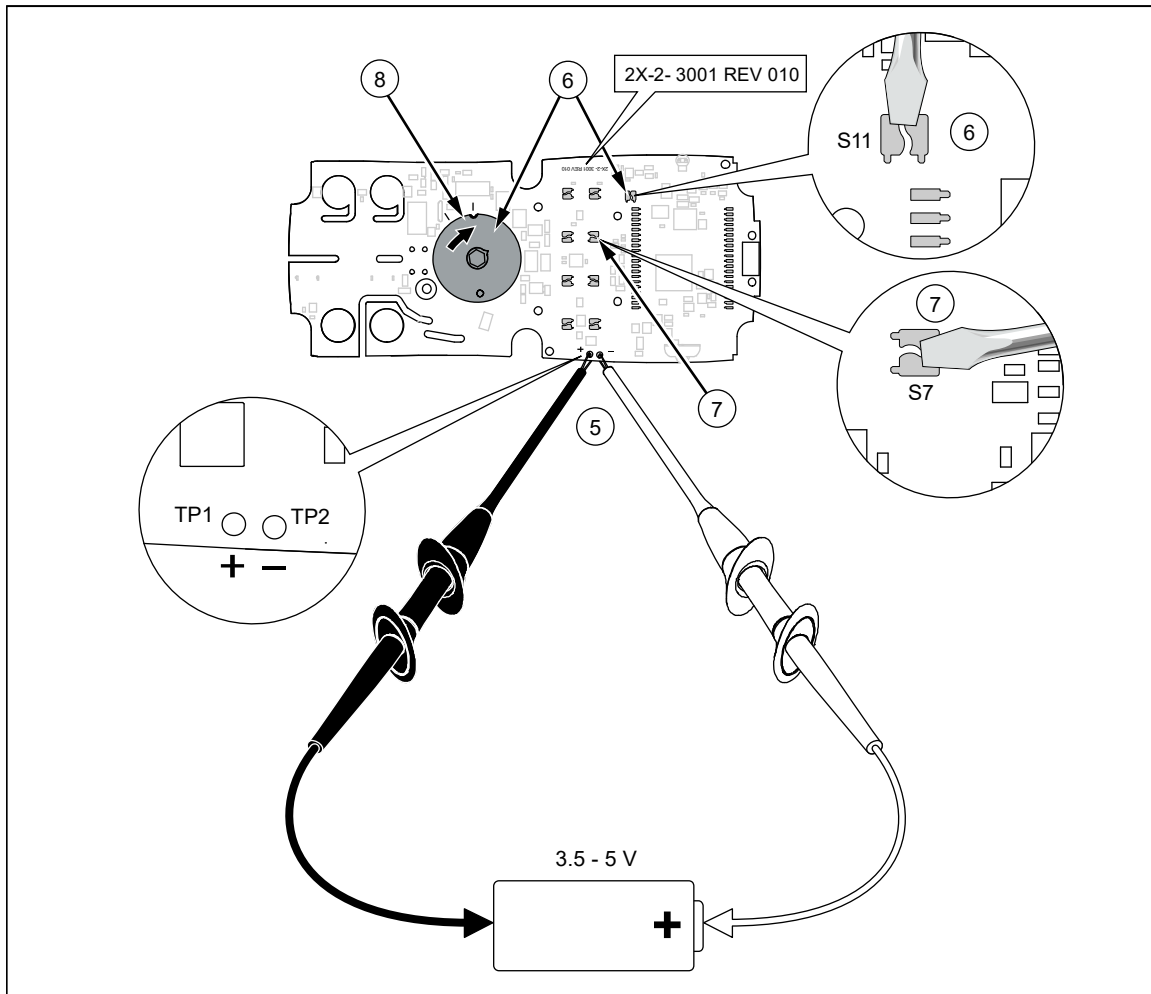

Figure 3. Revision 010 Board Layout
3. Check the revision number on the PCB. Board revision location is identified in Figures 3 and 4 below.
5. Apply power to the PCB by clipping on a dc voltage between 3.5 V and 5 V at the test points marked “+” and “-” at the edge of the board. See Figure 3.
6. While shorting across keypad button S7, turn the rotary switch one position clockwise. See Figure 3.
7. Short across keypad button S11. See Figure 3.